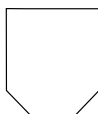

Figure 47: Metallic Test Tank
- Prepare a Metallic Test Tank as shown in the following Figure 47. The distance from test tank side walls should be of the same order as with distance with the actual tank.
- Prepare a Metallic Test Tank as shown in the following Figure 47.